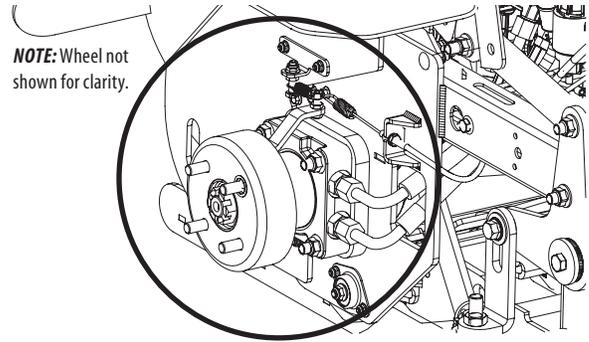

Figure 20
- Clean around and near the transmission, axle and the fan area (Figure 20).